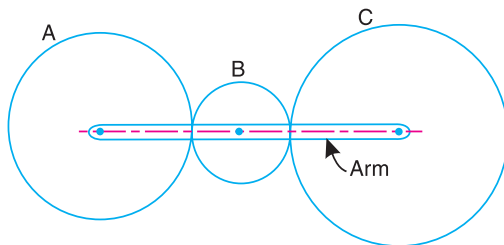

Fig. 13.33
4. In an epicyclic gear train, as shown in Fig. 13.33, the number of teeth on wheels  $A$ ,  $B$  and  $C$  are 48, 24 and 50 respectively. If the arm rotates at 400 r.p.m., clockwise, find : 1. Speed of wheel  $C$  when  $A$  is fixed, and 2. Speed of wheel  $A$  when  $C$  is fixed.